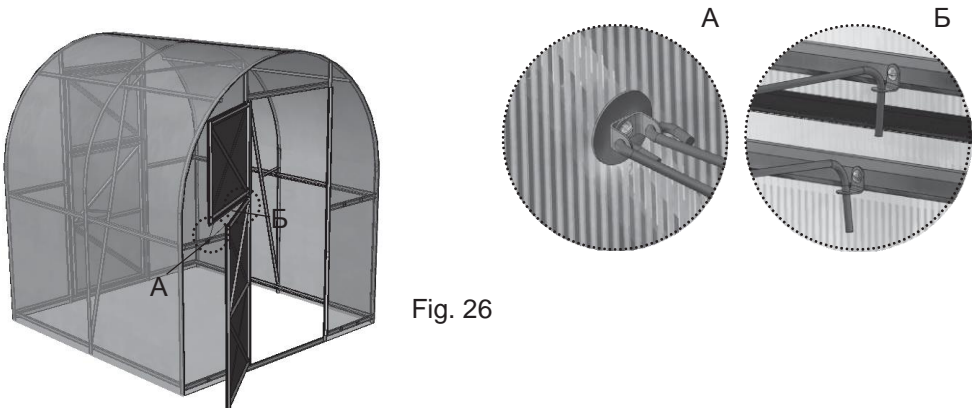

Fig. 26
12. Install an arm with hooks for fixation of doors and small windows in accordance with Fig. 26.